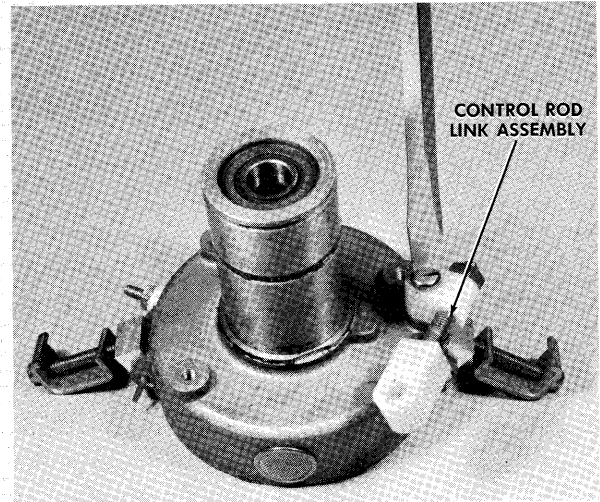

Figure 9 – Removing Distributor Control Rod Link Assembly
- D. Remove distributor control rod link assembly by removing screw securing same to distributor housing as shown in figure 9.